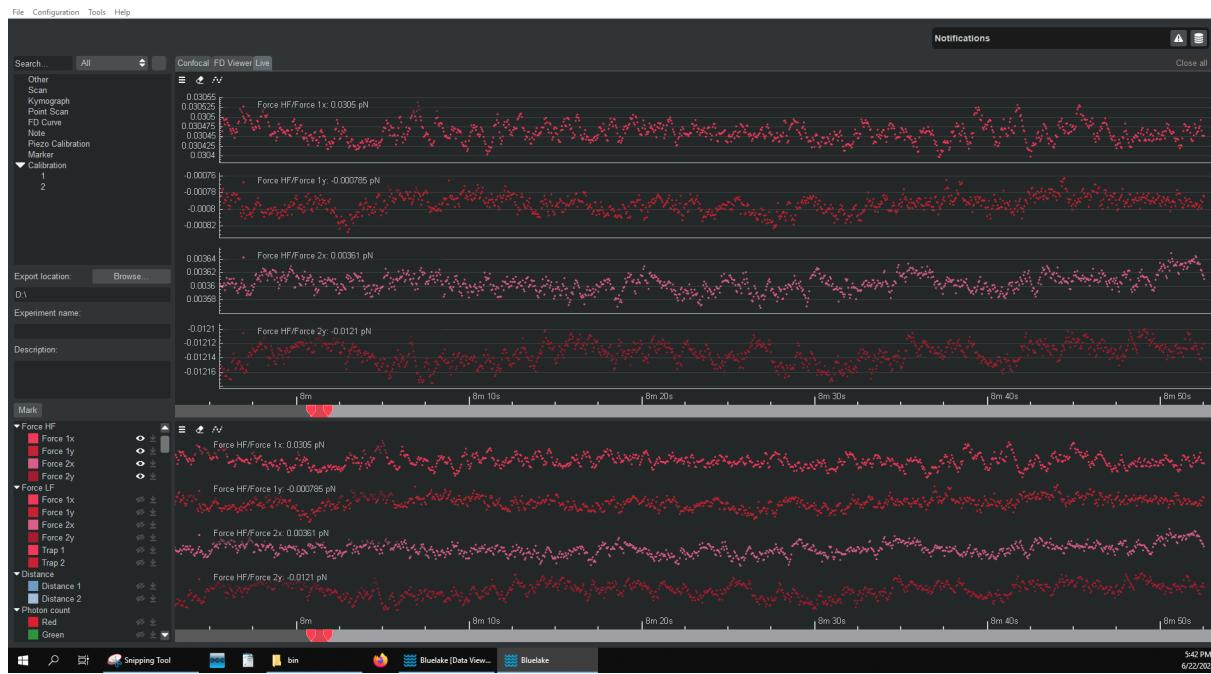
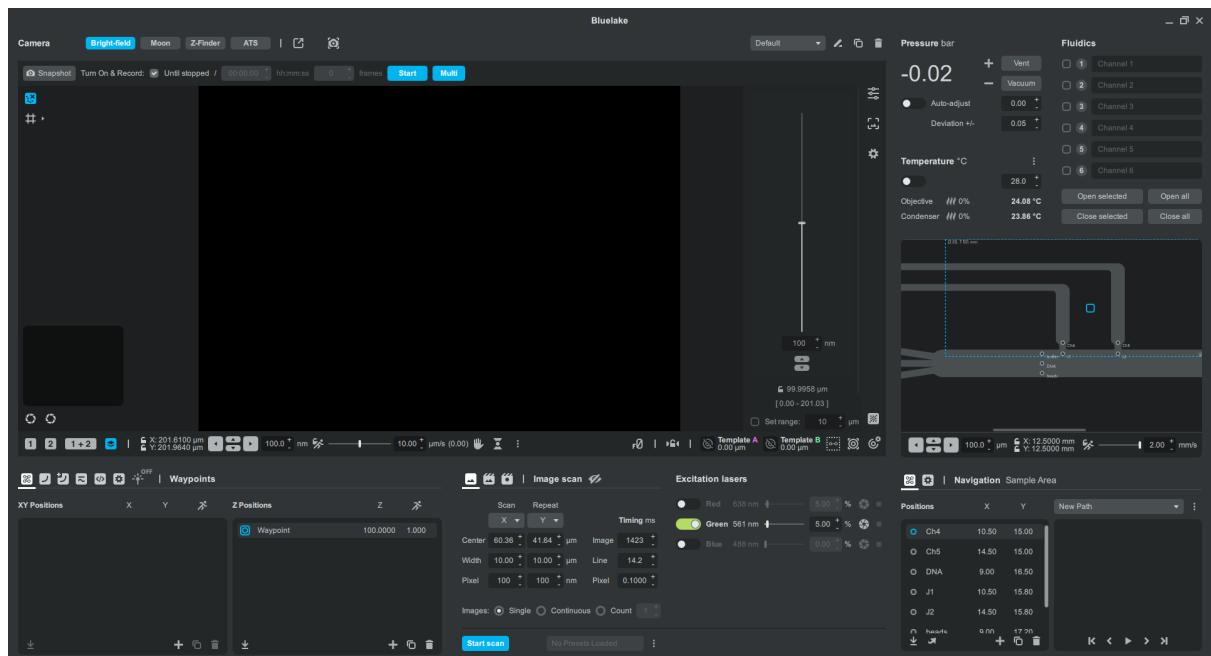

Figure 11.1.2: Bluelake after starting showing the data visualization window (left screen).
Figure 11.1.3: Bluelake after starting showing the control window (right screen).
6. Bluelake shows a splash screen and will then open on both screens (see Figure 11.1.2 and Figure 11.1.3)